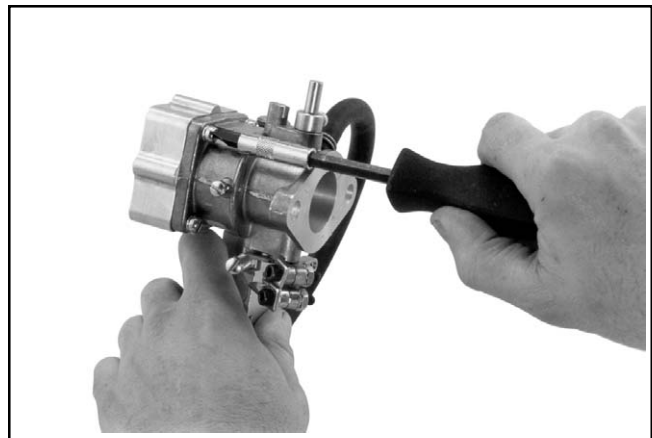

Figure 5A-4.
- a. Remove the four screws securing the air cleaner adapter and gasket to the carburetor. See Figure 5A-4.